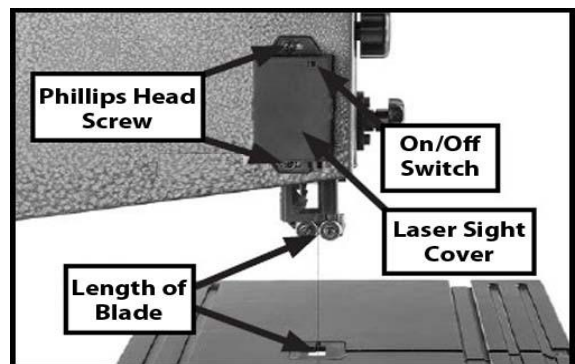

Figure 18
3. Turn the laser sight on and move the laser until it correctly lines up down the length of the blade. See Figure 18.